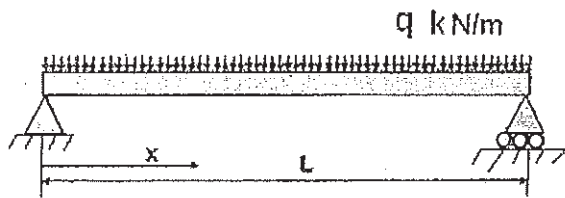

Fig. 1
- b) A simply Supported beam subjected to uniformly distributed load over entire span and it is subjected to a point load at the centre of the span. Calculate the deflection using Rayleigh-Ritz method and compare with exact Solutions. (16)
12. a) Determine the maximum deflection and slope in the beam, loaded as shown in Fig. 1. Determine also the reactions at the supports.  $E = 200 \text{ GPa}$ ,  $I = 20 \times 10^{-6} \text{ m}^4$   $q = 5 \text{ kN/m}$  and  $L = 1\text{m}$ . (16)